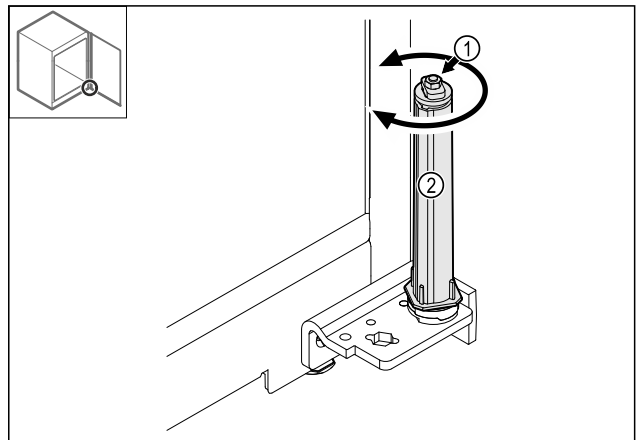

Fig. 39
- ▶ Do not disassemble the screw connection Fig. 39 (1) of the closing system.
- ▶ Turn the closing system Fig. 39 (2) until it clicks.